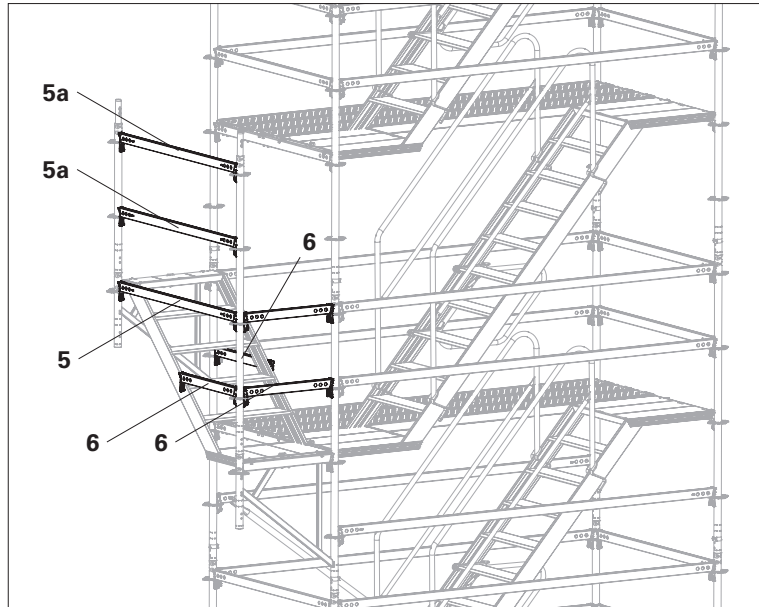

Fig. A7.04
5. Fit Horizontal Ledger UH-2 150 (5) 1 x + UH-2 75 (6) 4 x as lateral protection.
6. Remove Horizontal Ledger UH-2 150 from the base scaffold and fit it at the exit point as lateral protection (5a). (Fig. A7.04)